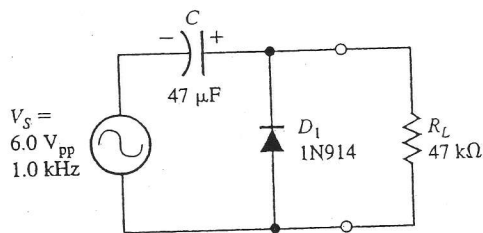

Figure 33-6
7. Connect the clamp circuit shown in Figure 33-6. Couple the oscilloscope with dc coupling and observe the output voltage. Vary the input voltage and observe the result.
2. For the circuit of Figure 33-6, describe what would happen to the output voltage if the capacitor were shorted.